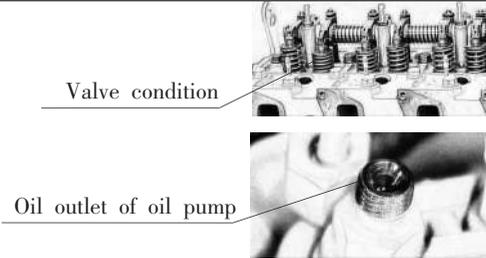

Fig 5-20 Valve Clearances Adjustment
2.9 Adjusting method of valve clearance: turn crankshaft, when fuel appears on delivery port of first cylinder pump, stop to turn, at same time, all intake and exhaust valves are all closed (see Fig 5-20). Finger on flywheel ring should align with mark on flywheel housing.